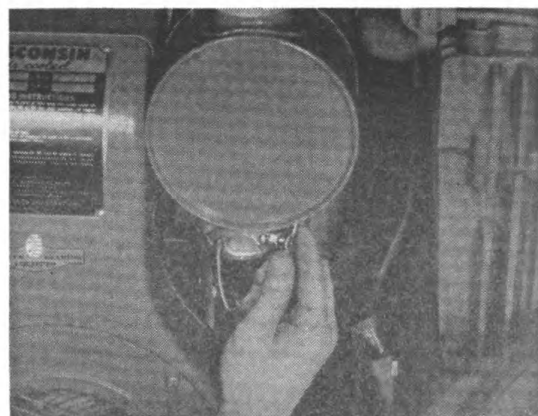

Figure 9
a. Open the valve (See Figure 9) in the gasoline line.
b. Close the valve (See Figure 9) in the gasoline line below the fuel tank.